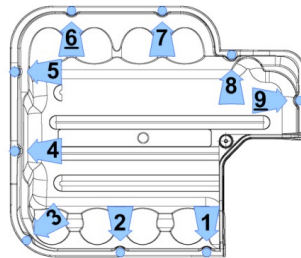

Figure 10 – Top Cover Install
10. Place the Top Cover and secure it with the fasteners according to the following sequence. Follow the sequence twice. The first time, only thread the fasteners half way down to allow for adjustments. Torque to 13 in.lb. on the second pass. Refer to Figure 10 (Top Cover Install).